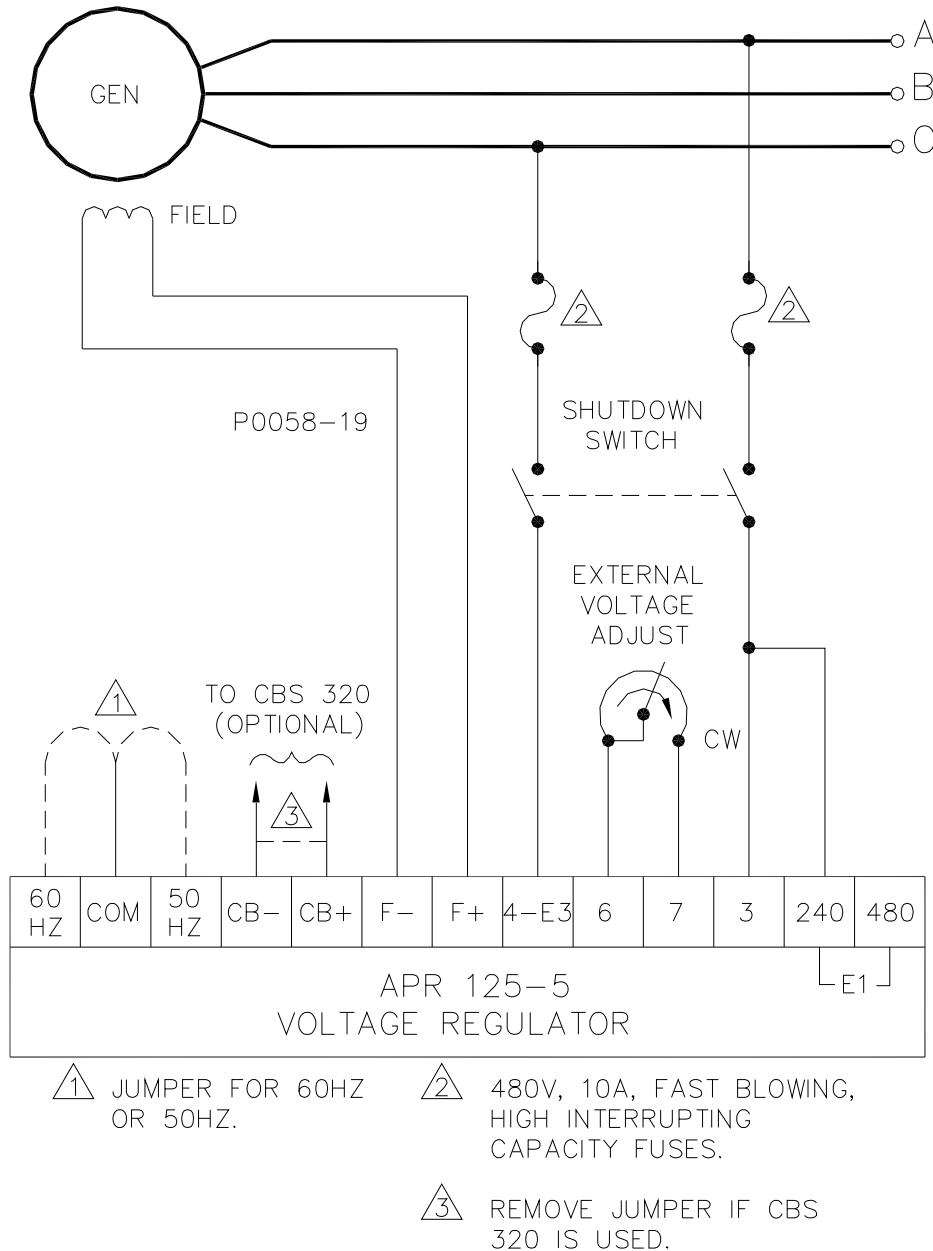
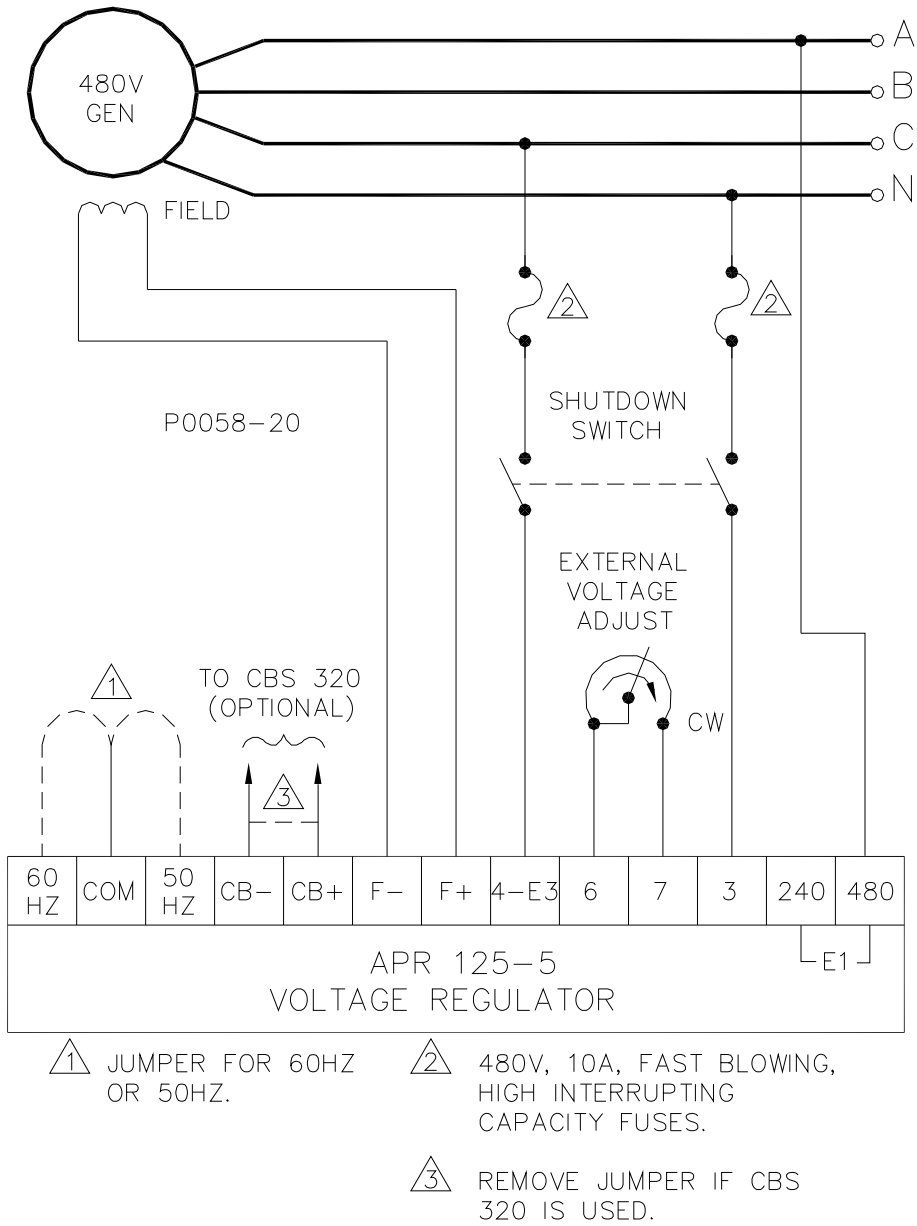
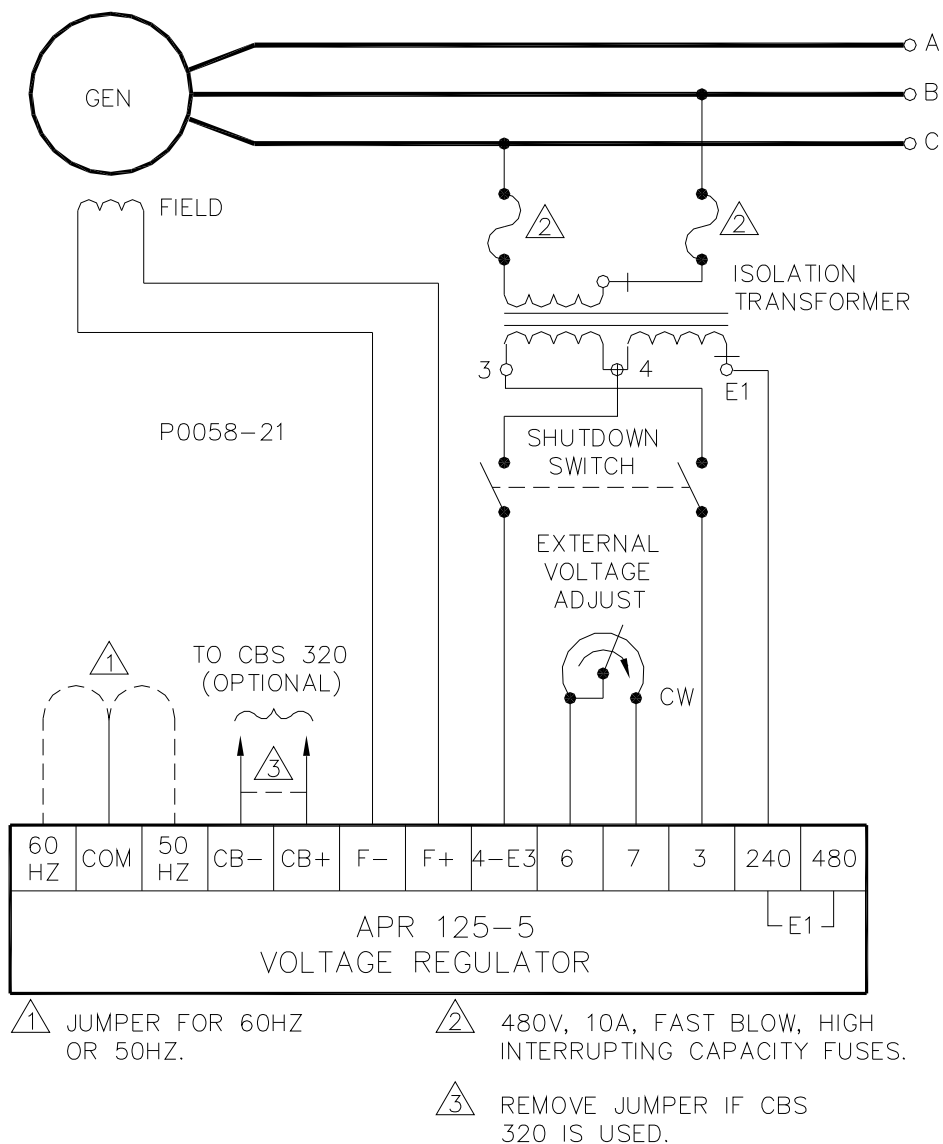

Figure 3-3. 208/240 Vac Interconnection Diagram
Figure 3-4. 410/450/480 Vac Interconnection
Figure 3-5. Isolation Transformer Interconnection
APR 125-5 interconnection diagrams are provided in Figures 3-3, 3-4, and 3-5. Figure 3-3 illustrates 208/240 Vac connections, Figure 3-4 illustrates 410/450/480 Vac connections, and Figure 3-5 illustrates APR 125-5 interconnection with an isolation transformer.
3. If the external voltage adjust potentiometer (supplied with the APR 125-5) will be used, connect it across terminals 6 and 7 as shown in Figures 3-3 through 3-5. If the potentiometer won't be used, connect a jumper across terminals 6 and 7.